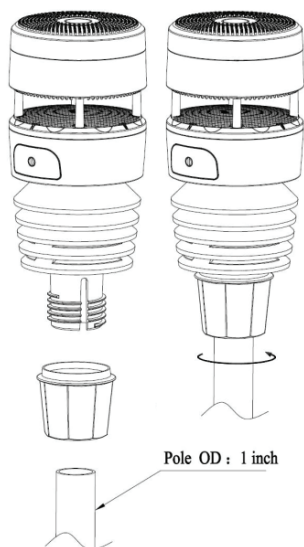

Figure 3
- Remove the battery door on the back of the sensor (Figure 3).